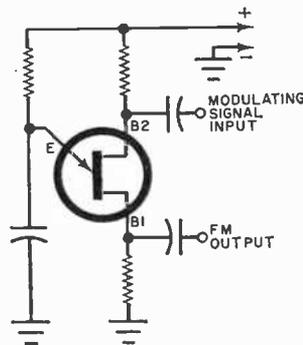

FIGURE 7
**Modulate a Relaxation Oscillator.** A UJT relaxation oscillator can be frequency modulated by applying the modulating signal across a resistor in the B2 circuit as shown in Fig. 7. The waveform of the modulating signal can be sine, sawtooth, square, triangular, or irregular.